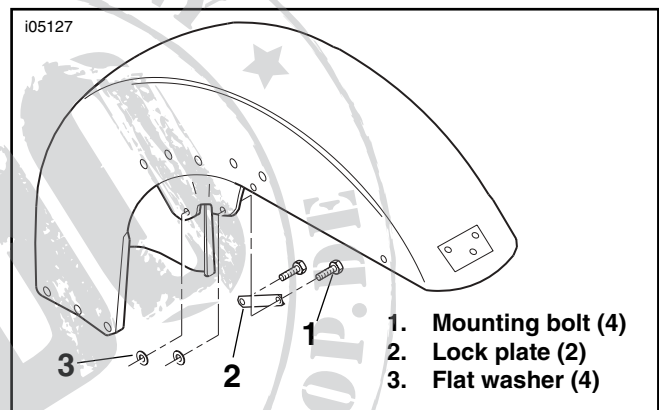

Figure 1. Touring Model Front Fender Removal
2. See Figure 1. Locate the lock plates (2) on the underside of the fender, and bend the corner tabs away from the front fender mounting bolts (1).